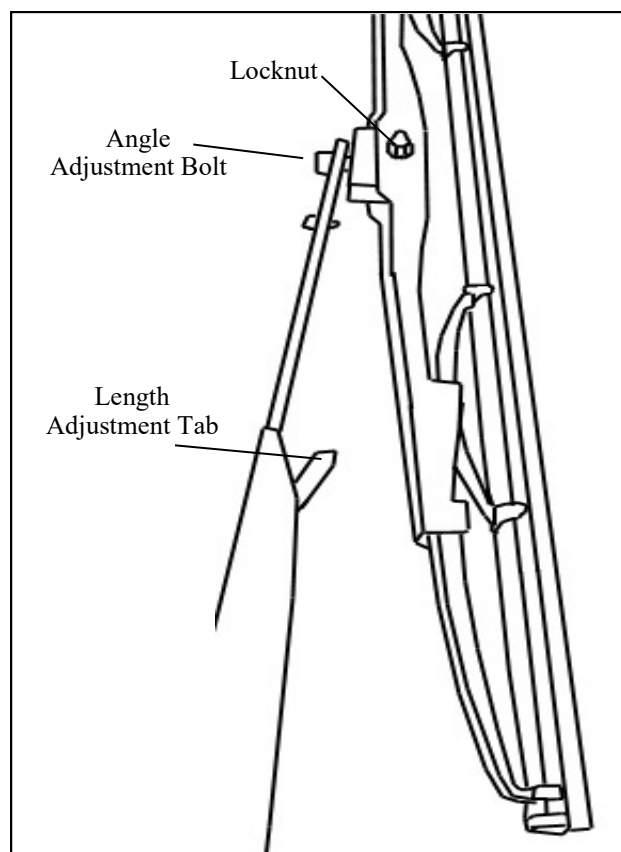
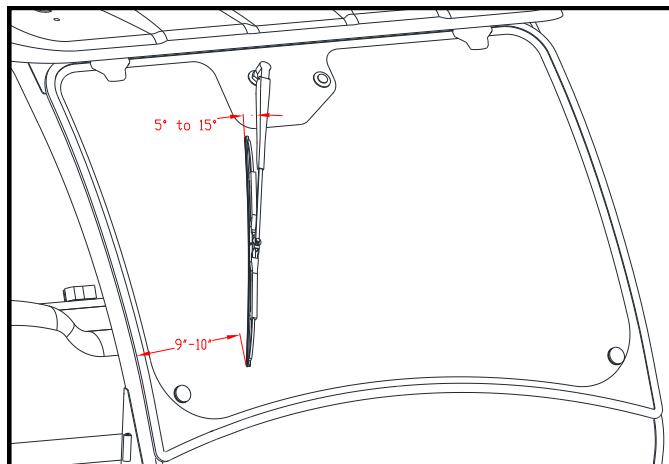

Figure 10.6: Wiper arm
Figure 10.7: Wiper Arm parked location
- 10.6 Remove screw and locknut from wiper arm, and insert screw through upper mounting hole in wiper blade and wiper arm hole. **(Figure 10.6)** Secure with the locknut.
10.7 Use Length adjustment tab and angle adjustment bolt on wiper arm to adjust arm noted in figure 10.6, to following specifications. **(Figure 10.7):**